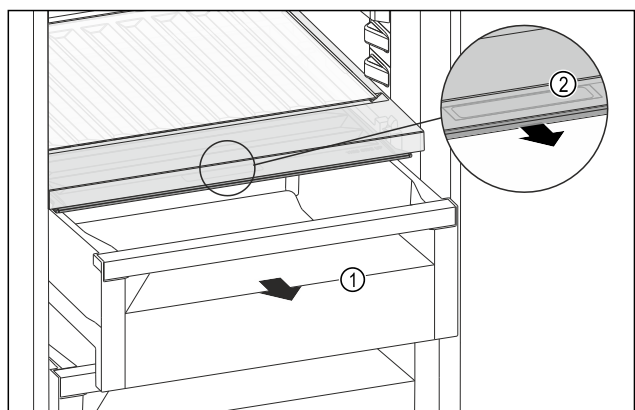

Fig. 157
- ▶ Pull out the drawer Fig. 157 (1).
- ▶ Grasp the recessed grip Fig. 157 (2) on the compartment lid and pull the compartment lid forwards at the same time.